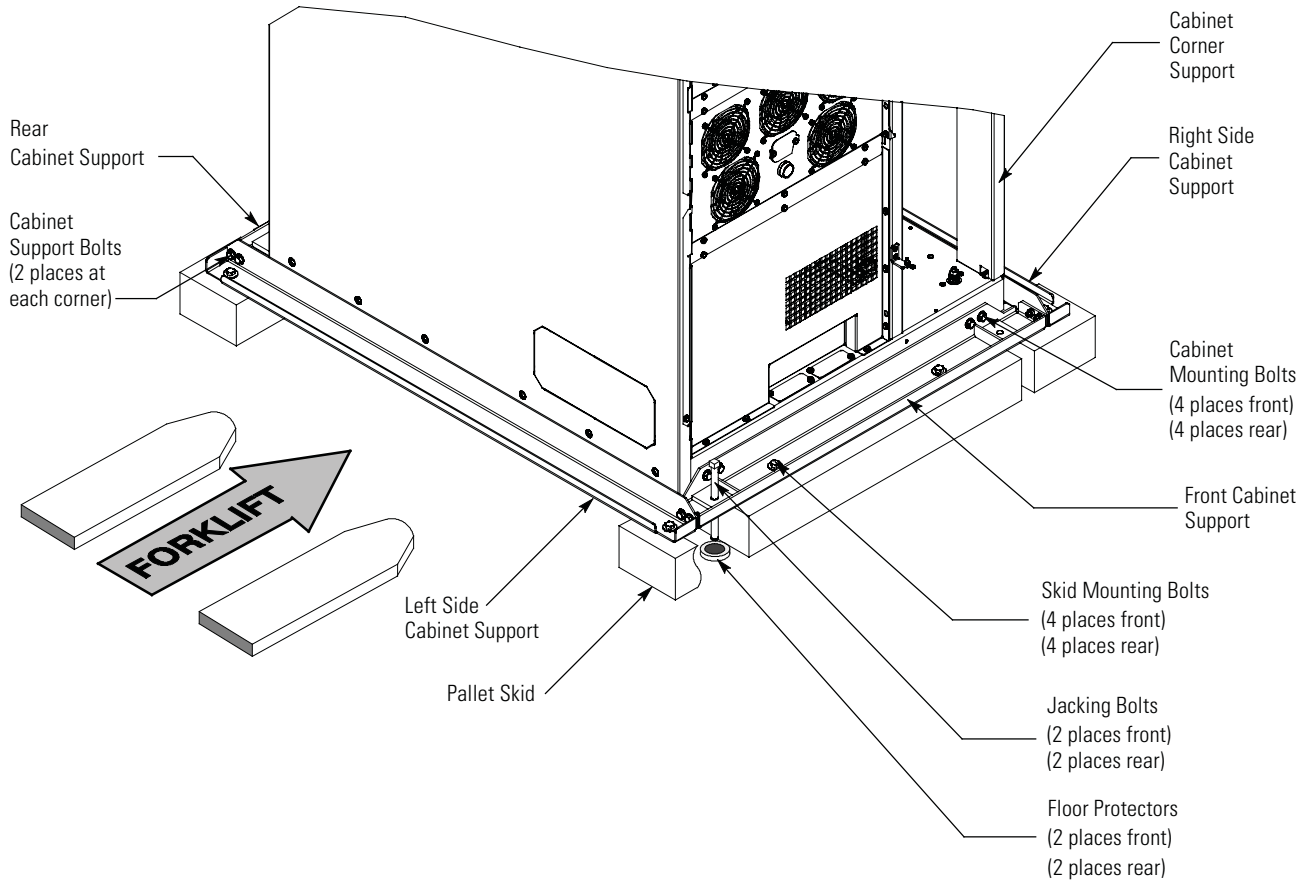
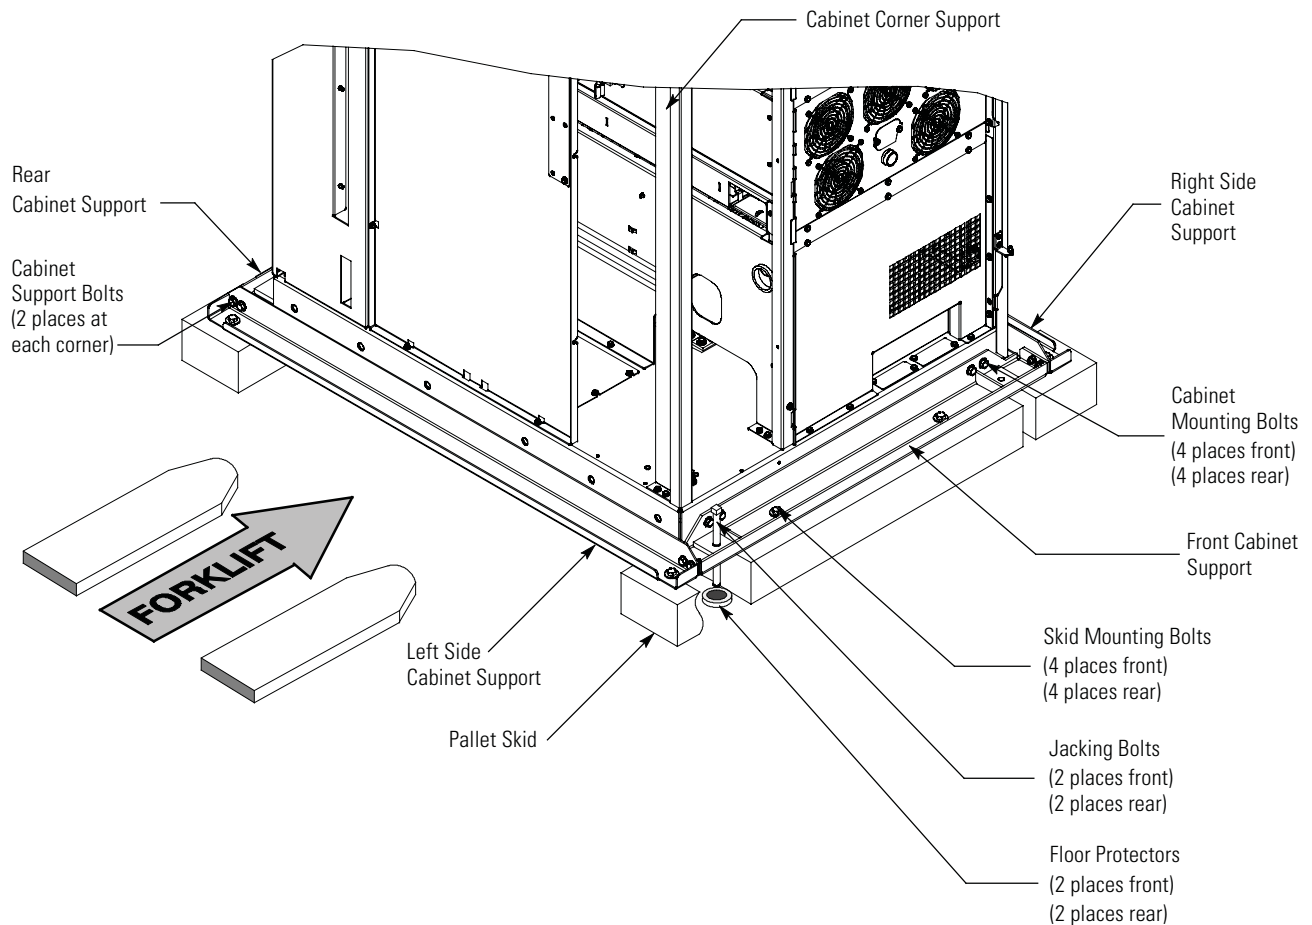

Figure 4-1. Removing the Pallet Skids and Supports – Eaton 93PM UPS Left Section
Figure 4-2. Removing the Pallet Skids and Supports – Eaton 93PM UPS Right Section
3. Locate the four 1/2" jacking bolts from the parts kit and install them in the threaded holes in the front and rear supports as shown in Figure 4-1 or Figure 4-2. Place a floor protector from the parts kit underneath each jacking bolt, and screw the bolts down against them.
- Loosen, but do not remove, the skid mounting bolts holding the pallet skids to the front and rear supports, and to the left and right side supports (see Figure 4-1 or Figure 4-2).
13. Remove the cabinet support bolts fastening the front, rear, and side cabinet supports together and remove the side supports (see Figure 4-1 or Table 4-2).
14. Remove the cabinet mounting bolts holding the front and rear supports to the cabinet base (see Figure 4-1 or Figure 4-2).
1. Remove the screws securing the cabinet corner supports from the left and right cabinet sections (see Figure 4-1 and Figure 4-2). Remove the corner support and recycle the supports and hardware in a responsible manner.